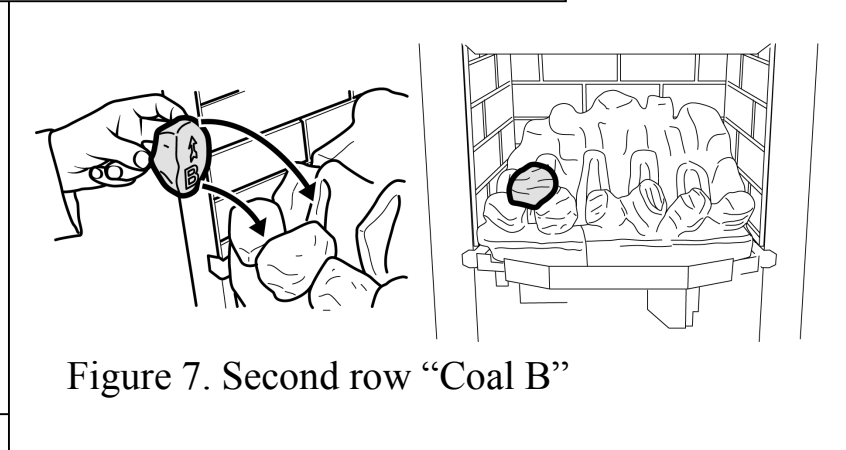

Figure 7. Second row "Coal B"
10. Hold coal 'B' upright with the arrow pointing to the top. Locate coal 'B' as shown in figure 7.